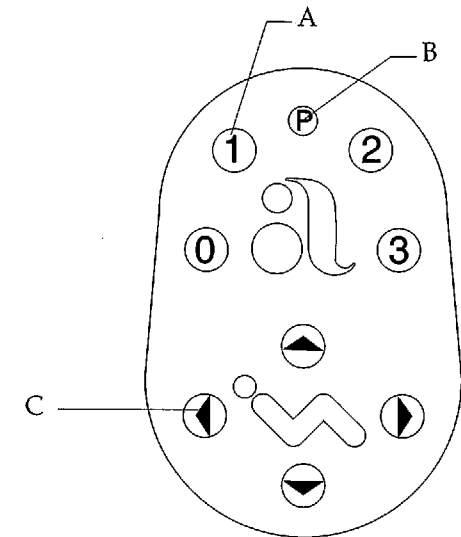

Figure 80. Footswitch buttons. (A) numbered position button; (B) Program button; (C) manual control
2. Press and release **Program** (one beep) (see Figure 80).